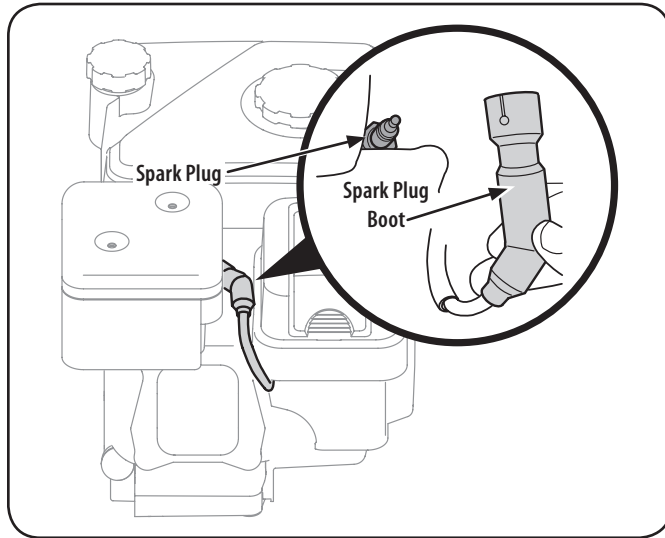

Figure 21
1. Remove the spark plug boot and use a spark plug wrench to remove the plug. See Figure 21.